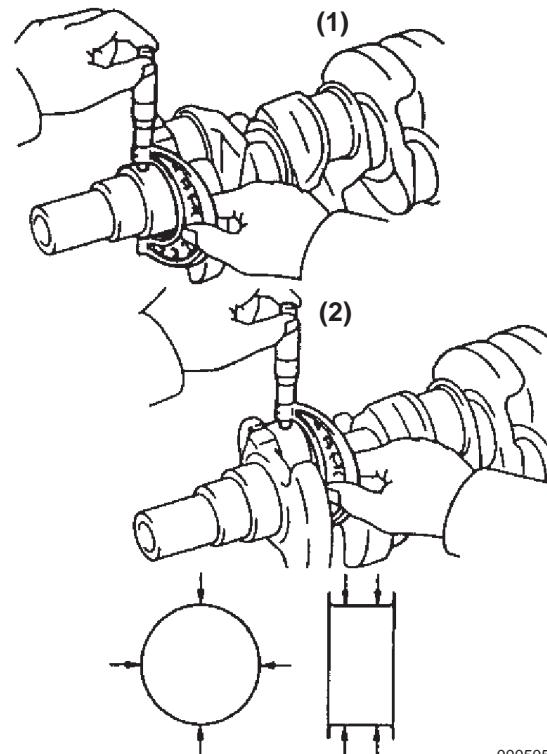

Figure 5-127
2. Inspect and measure diameters of each crank journal (**Figure 5-127, (1)**) and crank pin (**Figure 5-127, (2)**) using a micrometer.